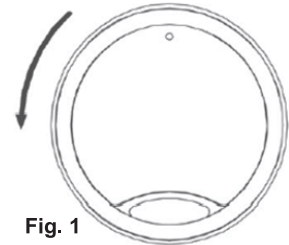

Fig. 1
- Turn the housing ring anticlockwise until it cannot move (about 20°), then gently pull it away from the keypad base. Fig.1